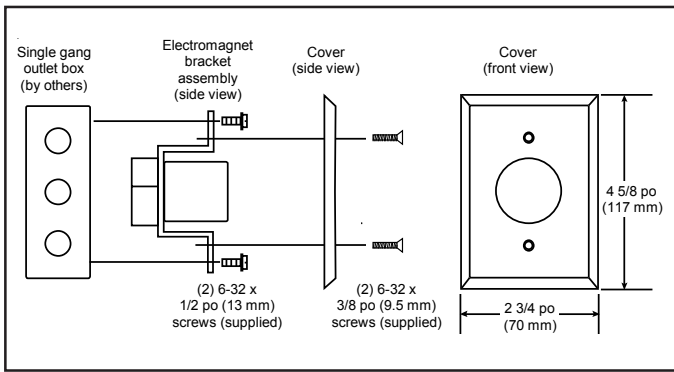

Figure 2. Mounting
- Refer to Figure 2. Pull field wiring through conduit into the single gang outlet box.
- Secure the electromagnet bracket assembly to the outlet box using two #6-32 x 1/2" screws provided (Figure 2).
- Mount the cover to the electromagnetic bracket assembly and secure with the two #6-32 x 3/8" screws provided (Figure 2).